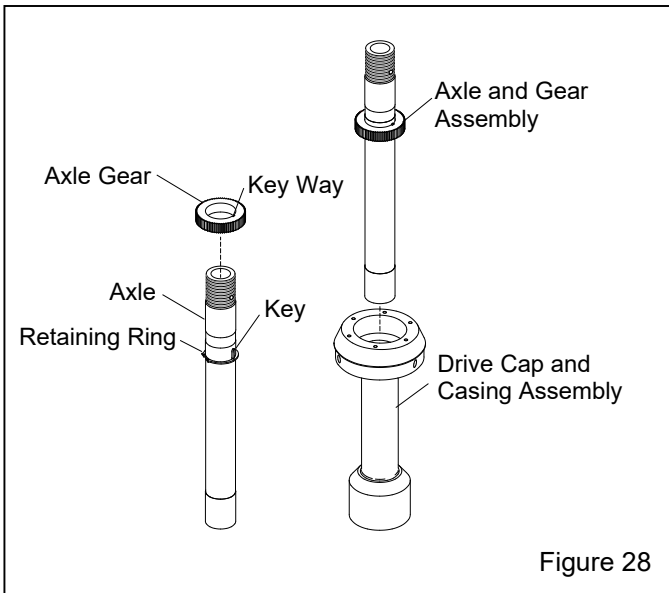

Figure 28
**9.2 Axle, Axle Gear, and Casing Reassembly Figure 28**